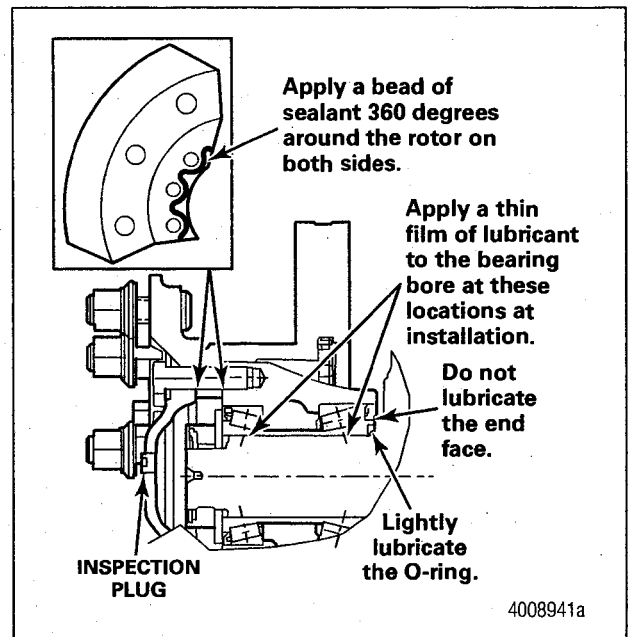

Figure 8
1. Apply a bead of anaerobic sealant such as Loctite® 518 Gasket Eliminator 360 degrees around the outboard facing rotor flange on the inside of the bolt circle. Figure 8.